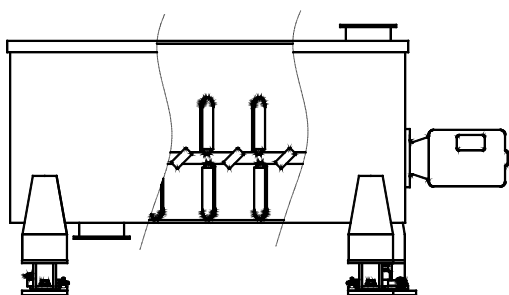

Figure 6-4: Horizontal Batch Mixer
- **Horizontal Batch Mixer:** This device has a motor driving a horizontal agitator shaft, which can be a screw or be equipped with paddles. The agitator shaft rotates in a horizontal trough and is typically used to mix or coat dry ingredients and to create slurries or pastes. Typical applications are mixing animal feeds, coating seeds, and mixing concrete. Electric motors up to 150 kW (200 hp) are used, and heavy vibration can be expected because of the nature of the operation. If the agitators operate during weighing, then stabilizers are recommended (see Figure 6-4).